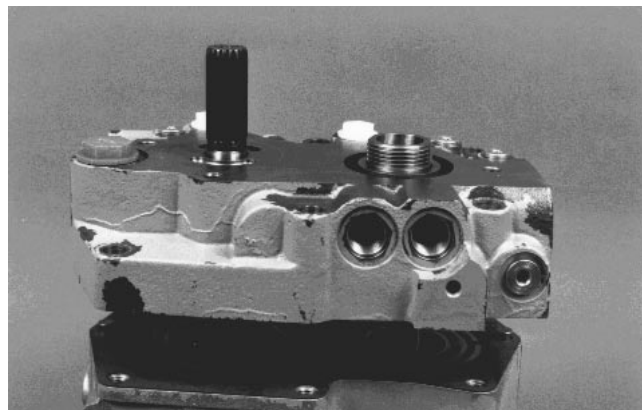

Figure 43
3. Remove center section from housing (Fig. 43).